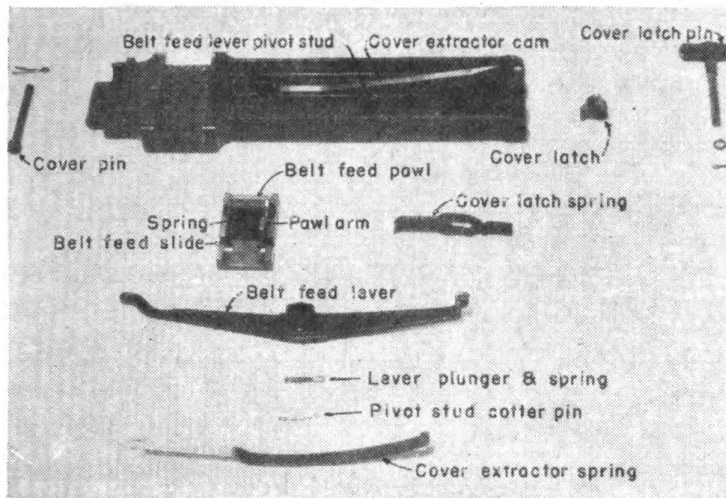

FIGURE 41.—Cover group.
Q. Identify the component parts of the cover group. A. See figure 41.
Q. Explain the disassembly of the cover group. *A.* See figure 41. Remove the cover. Withdraw the belt feed lever pivot stud cotter pin and pry the belt feed lever off its stud, taking care that the lever plunger and spring do not fly out. In the removal of the belt feed lever the toe of the lever must be in line with the slot in the cover to withdraw it. Remove the belt feed slide and drive out the belt